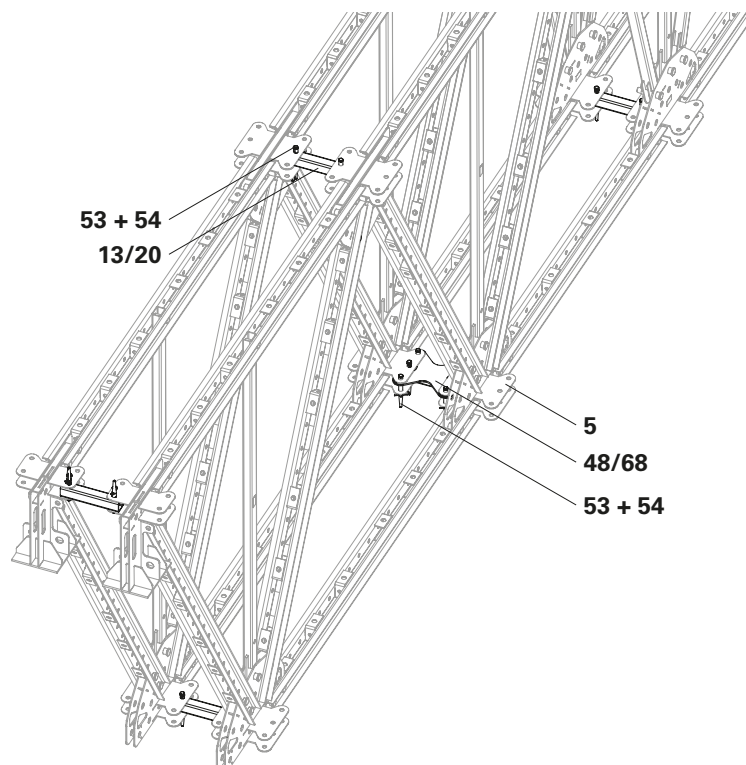

Fig. A7.02
- (Fig. A7.02 + A7.02a)
- (Fig. A7.02 + A7.02b)